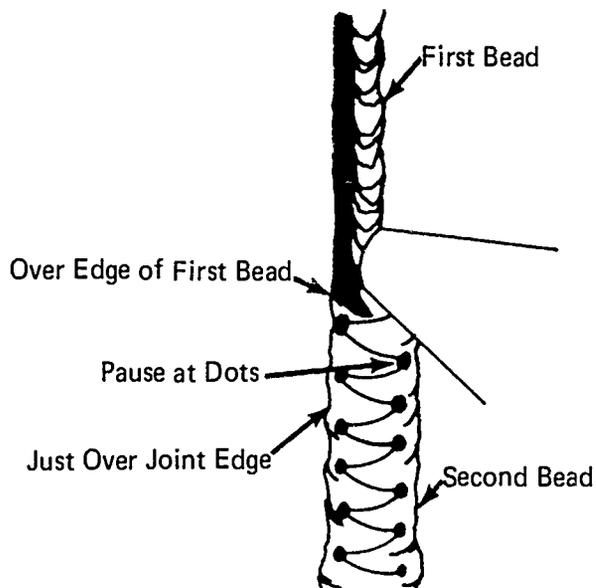

FIGURE 7
- J. For second pass, use same technique with wider weave motion, pausing at edge of previous bead long enough to fill joint (Figure 7)